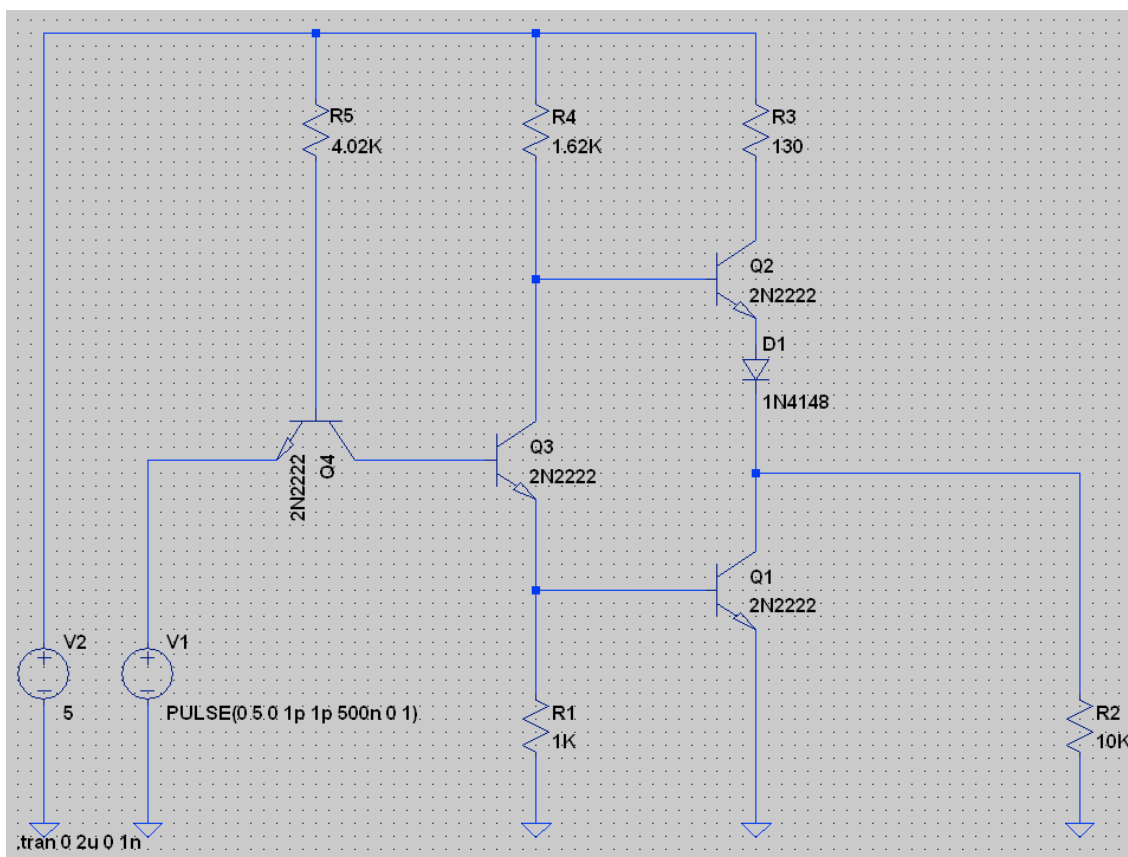

Figure 2: TTL inverter logic gate.
- 2.1. Close your schematic from Section 1 and create a new one called **TTL inverter**. Construct the TTL circuit shown in Figure 2, being careful to use the resistor values provided. Note that here we have substituted the Q2N2222 for the actual BJTs used in a TTL inverter circuit. Resistor R_L is used to model a load. The input pulse voltage should be 0 - 5V with duration 500 ns.